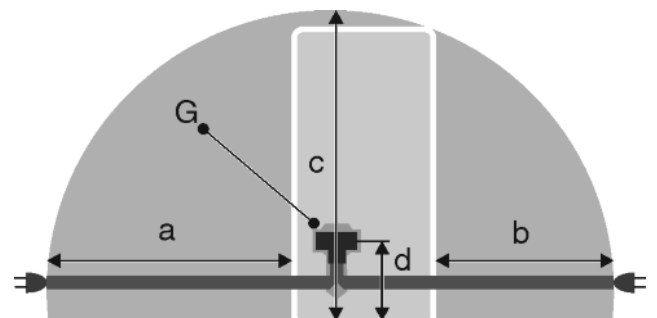

Fig. 21
- The socket is outside the back of the appliance area in the specified area *Fig. 21 (a, b, c)*.
- ▶ Insert the appliance plug *Fig. 21 (G)* into the back of the appliance. Ensure that it clicks into place.